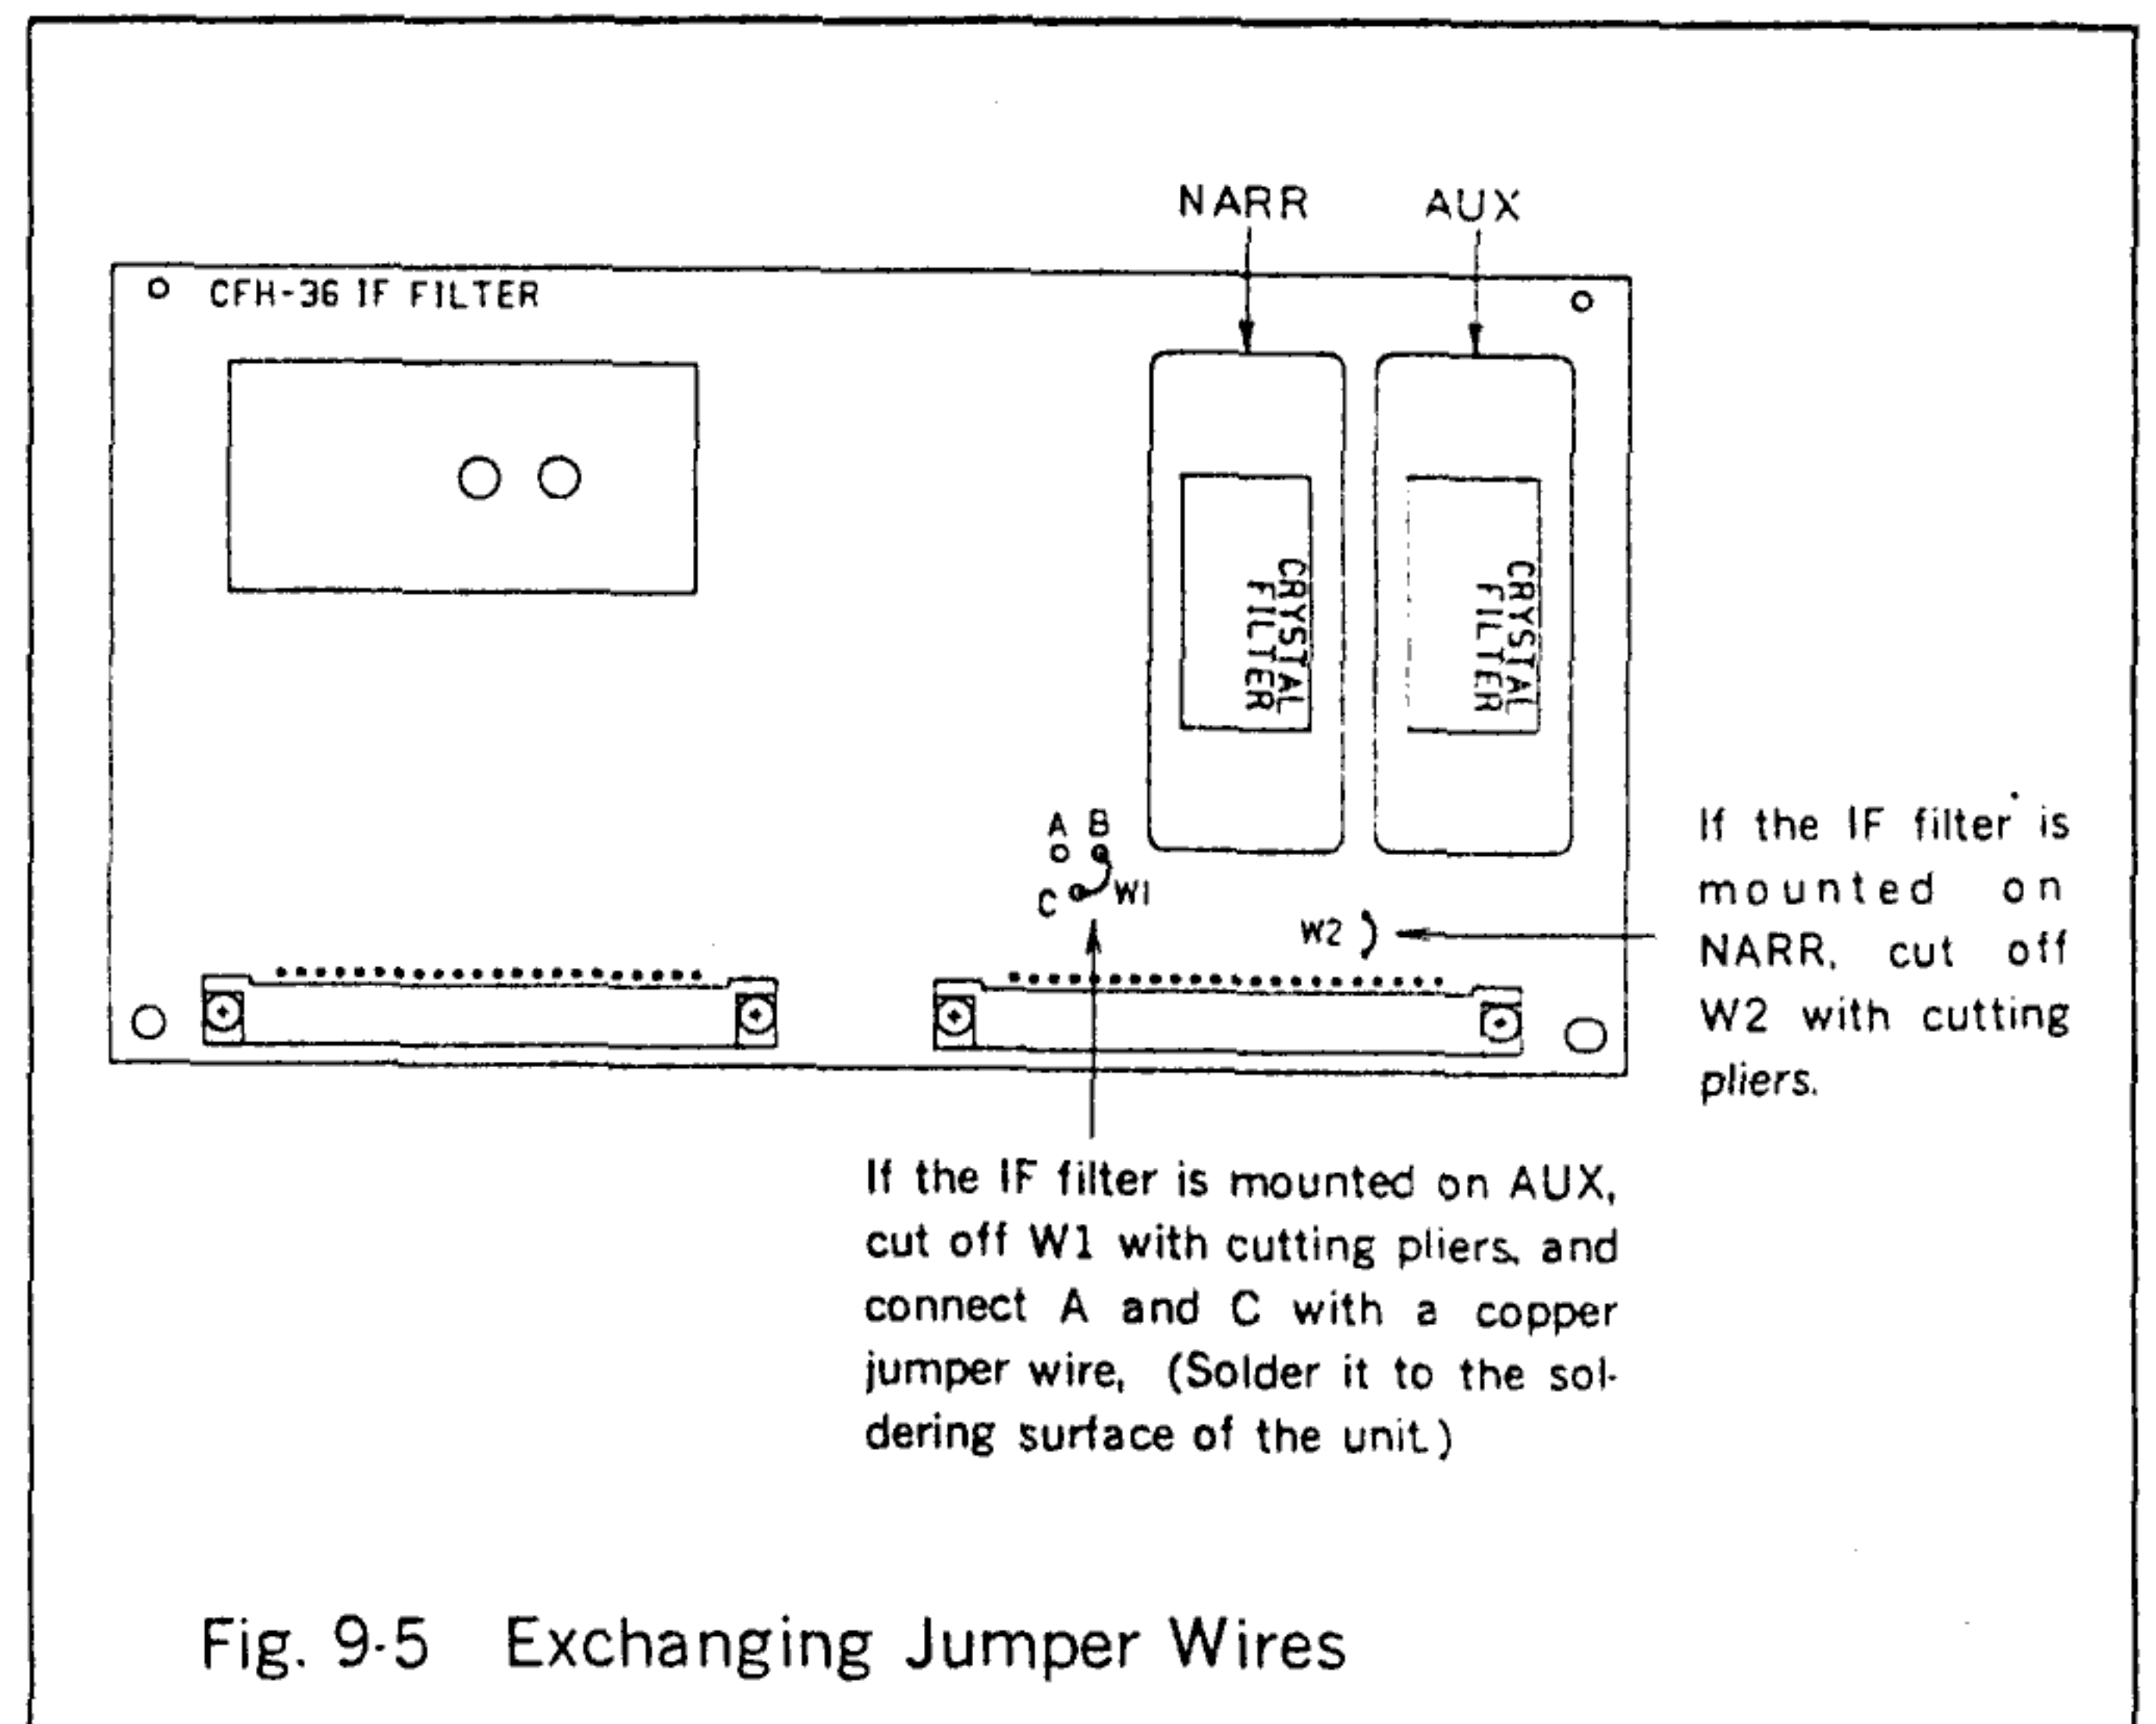

Fig. 9-5 Exchanging Jumper Wires
- (4) Exchange jumper wires as shown in Fig. 9-5.
- (5) Put back the IF filter unit CFH-36 to the original position by securely inserting it along the rail.
- (6) Mount the upper cover.